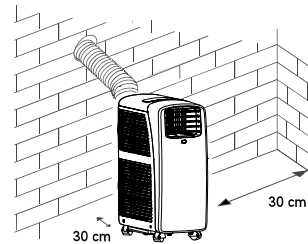

Fig. 1.
- 1) Ensure at least 30 cm of free space on the filtering side of the unit (Fig. 1).